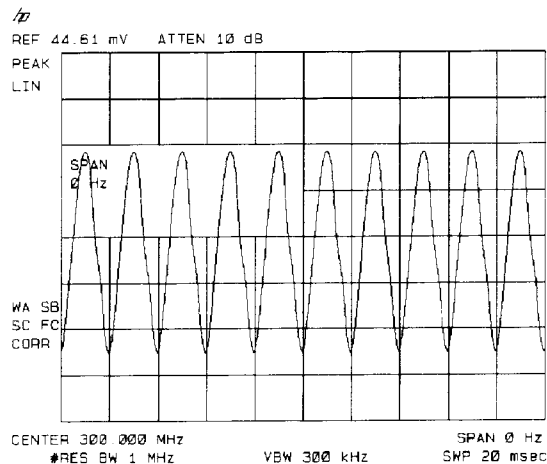

Figure 3-27. Measuring Modulation In Zero Span
5. To select zero span, either press **SPAN**, **0 Hz** or press **ZERO SPAN**. See Figure 3-27. If the modulation is a steady tone (for example, from a signal generator), use video trigger to trigger on the waveform and stabilize the display. Adjust the sweep time to change the horizontal scale.